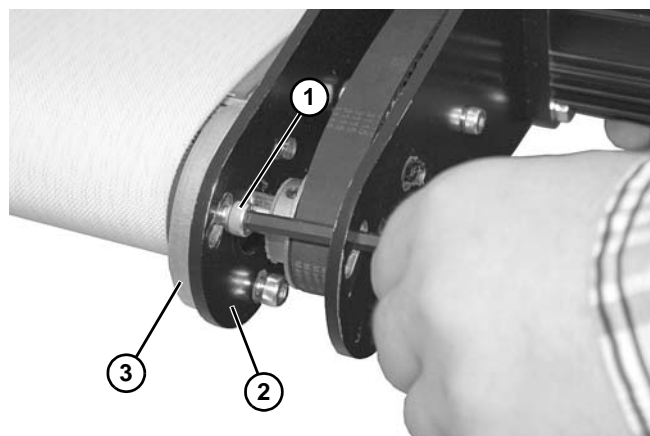

Figure 8
10. Install screw (Figure 8, item 1) through slotted hole in rear plate (Figure 8, item 2) and into mounting plate (Figure 8, item 3).